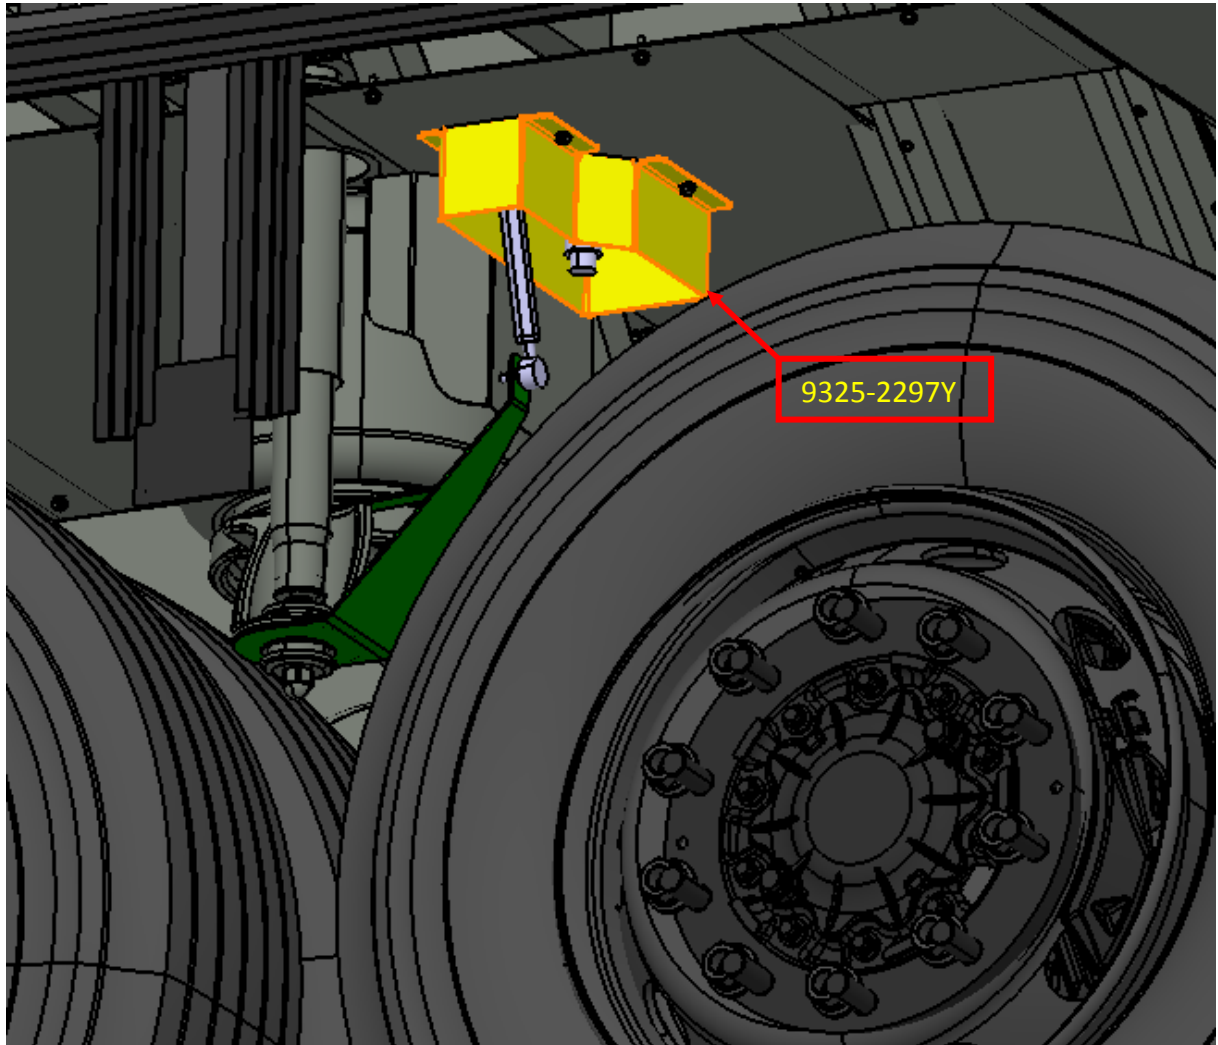

Figure-2
Step 2: Remove the panel shown in Figure-2